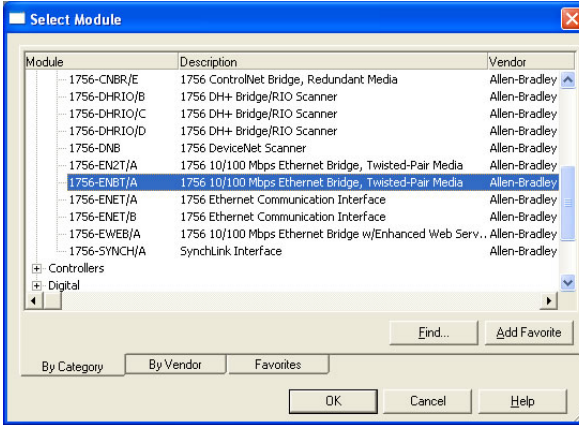

Figure 75: Adding a New 1756-ENBT/A Module
- 5) Under "Communications", select "1756-ENBT/A", and click OK. Refer to Figure 75.